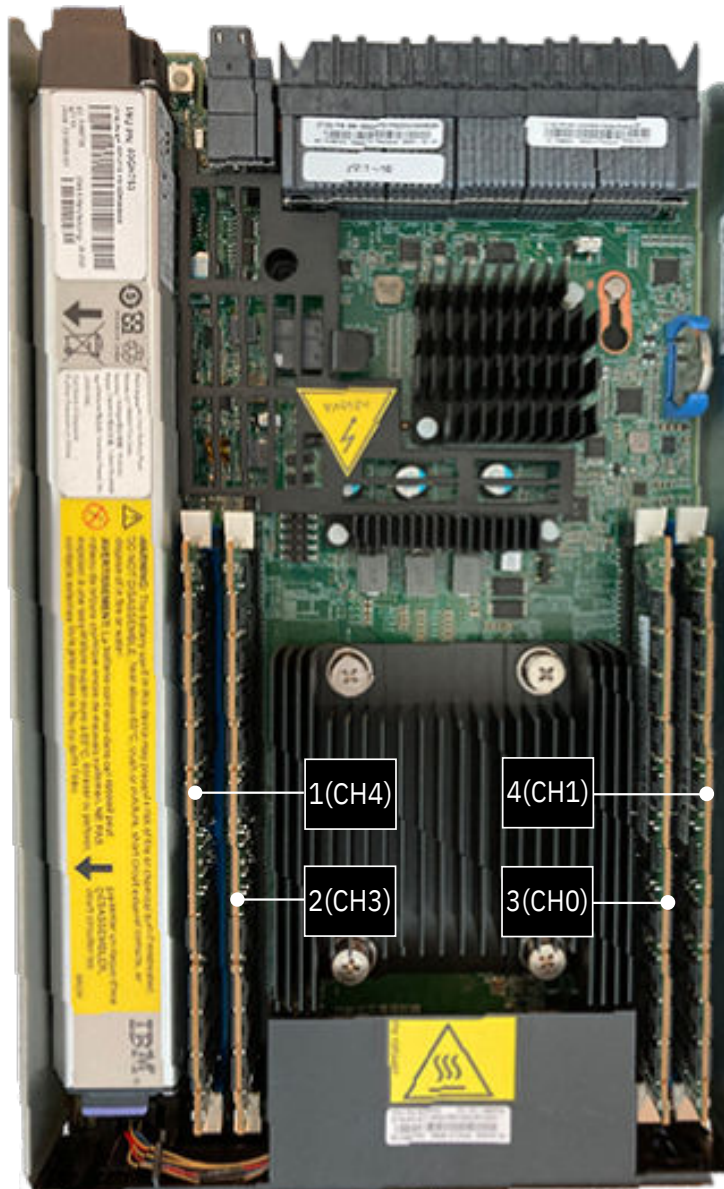

Figure 69. Location and numbering of the DIMM slots
Figure 69 on page 126 illustrates the physical layout of the four DIMM slots and CPU as present inside the node canister. DIMM slot numbering, as seen in this figure, also appears embossed on the adjacent fan assembly.
- If a node error 510 is logged and event ID 073510, the sense data includes information such as, the detected size of the DIMM in slot 1, 2, 3 and 4, followed by the expected size for each slot. Compare each detected capacity with the expected size to determine which DIMMs are faulty. See Table 47 on page 127 for permitted configurations and Figure 69 on page 126 for the physical location of each DIMM slot inside the node canister.
6. Refer to Figure 69 on page 126 to locate the appropriate DIMM slot.